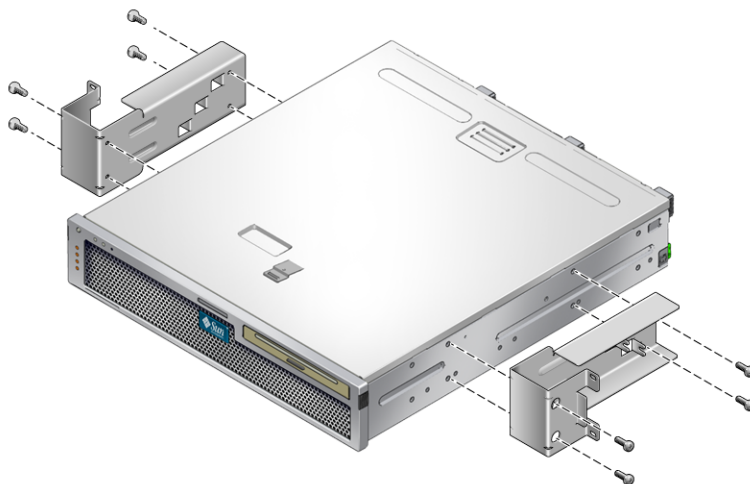

FIGURE 4-2 Securing the Side Brackets to the Side of the Server
2. Using eight of the M5 × 10 SEM screws (four for each side bracket), secure the side brackets to the sides of the server (FIGURE 4-2).